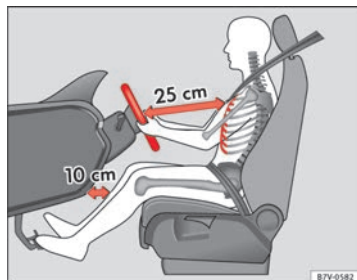
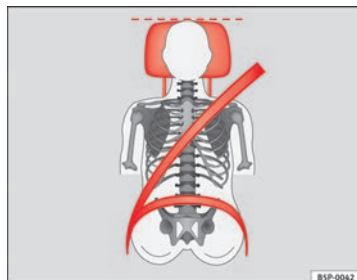

Fig. 1 The correct distance between the driver and the steering wheel must be at least 25 cm (10 inches)
Fig. 2 Correct belt web and head restraint positions
- Adjust the head restraint so that its upper edge is at the same level as the top of your head, or as close as possible to the same level as the top of your head and under no circumstances below eye level. Keep the back of your neck as close as possible to the head restraint ⇒ Fig. 1 and ⇒ Fig. 2.
- Adjust the steering wheel so that there is a distance of at least 25 cm (10 inches) between it and your chest ⇒ Fig. 1 and so that you can hold the steering wheel with both hands on the outside of the ring at the 9 o'clock and 3 o'clock positions with your arms slightly bent.
- Adjust the driver seat forwards or backwards so that you are able to press the accelerator, brake and clutch pedals to the floor with your knees slightly angled and the distance between your knees and the dash panel is at least 10 cm (4 inches) ⇒ Fig. 1.